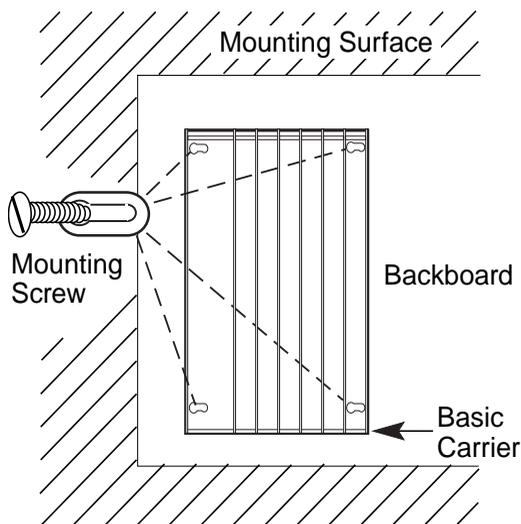

Figure 2-5. Marking the Basic Carrier Screw Holes
- ▶ **1. Mark the screw-hole locations on the backboard, using the basic carrier or the template supplied with the plastic preassembled backboard as a guide. See Figure 2-5.**